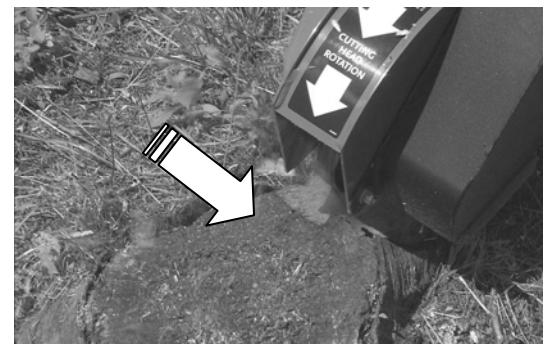

Figure 31
6. Lower the Cutter Head approximately 1/2" to 1" into the front-top corner of the stump and slowly swing the Cutter Head to the left into the stump by pushing on the right hand handlebar (**Figure 31**). When you are finished with the first pass through the Stump, swing the Cutter Head back to the starting position on the right side. Lower the Cutter Head approximately 1/2" to 1" and slowly swing the Cutter Head to the left through the Stump. Continue this process until you have removed the front portion of the stump to ground level.